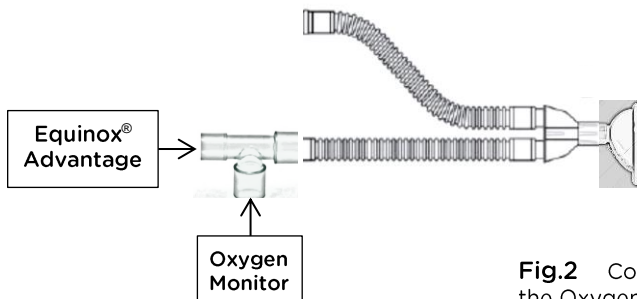

Fig.2 Connecting the Oxygen Monitor
- a. Connect an oxygen monitor to the output connector of the Advantage using a T-Connector (as shown in Fig 2).
- b. Utilizing a 1 Liter calibrated syringe, connect the syringe to the patient connection on the patient circuit connected to T- connector (as shown in Fig 2). Turn on the Advantage unit, select the 100% O₂ setting and activate the demand valve by cycling the syringe until the oxygen reading on the monitor has stabilized
To monitor the output of the N₂O/O₂ mixture, an oxygen monitor with alarm **should** be used on the inspiratory line of the patient circuit. The monitor “Tee” piece is to be placed on the outlet of the mixer prior to the circuit being attached (fig 2).